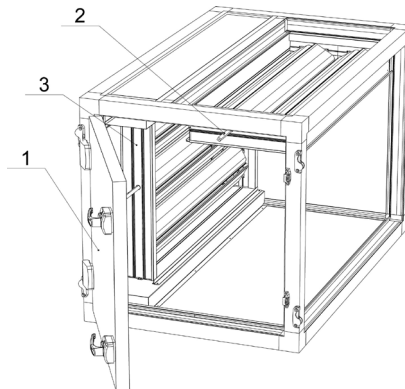

Figure 6.7.2. One stage mixing section with two dampers inside
2. One stage mixing section with two dampers inside (Figure 6.7.2).